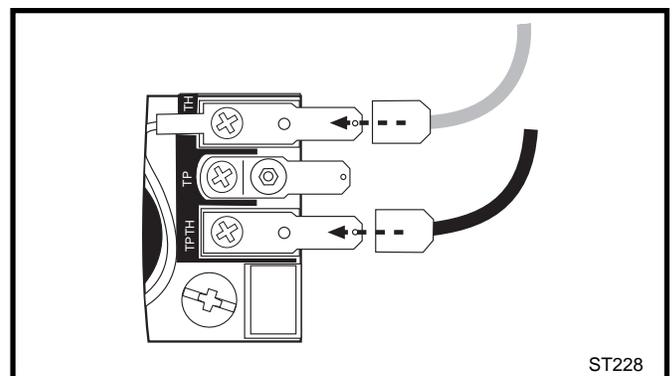

Fig. 16 Attach switch wires to valve.
3. Attach wires to valve terminals. (Fig. 16)